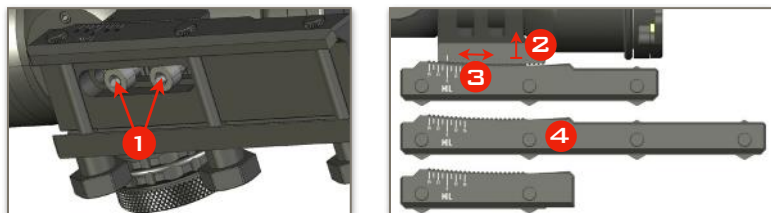

FIG. 1
We've also included different lengths of Picatinny rails, allowing you to compensate for different lengths of pull and giving you more freedom to fine-tune your eye relief (Fig.1, Pos.4)
- Undo the two screws below the rail (Fig.1, Pos.1), remove it and replace with desired rail.
- Loosen the two screws just enough to allow the upper mount to be lifted and repositioned (Fig.1, Pos 2,3).